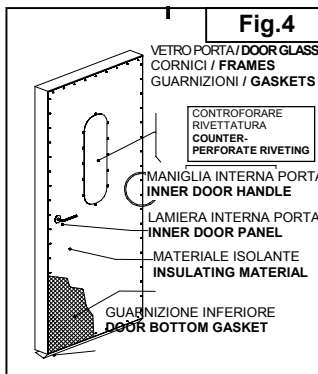

Fig.4
-Staccare la lamiera interna porta ed accedere al materiale isolante Fig.4.
-Detach the inside panel of the door and remove the insulating material Fig. 4.